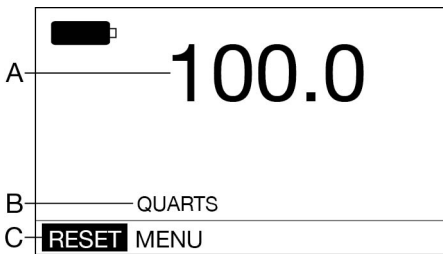

FIG. 22
3. The Dispense screen displays (FIG. 22).